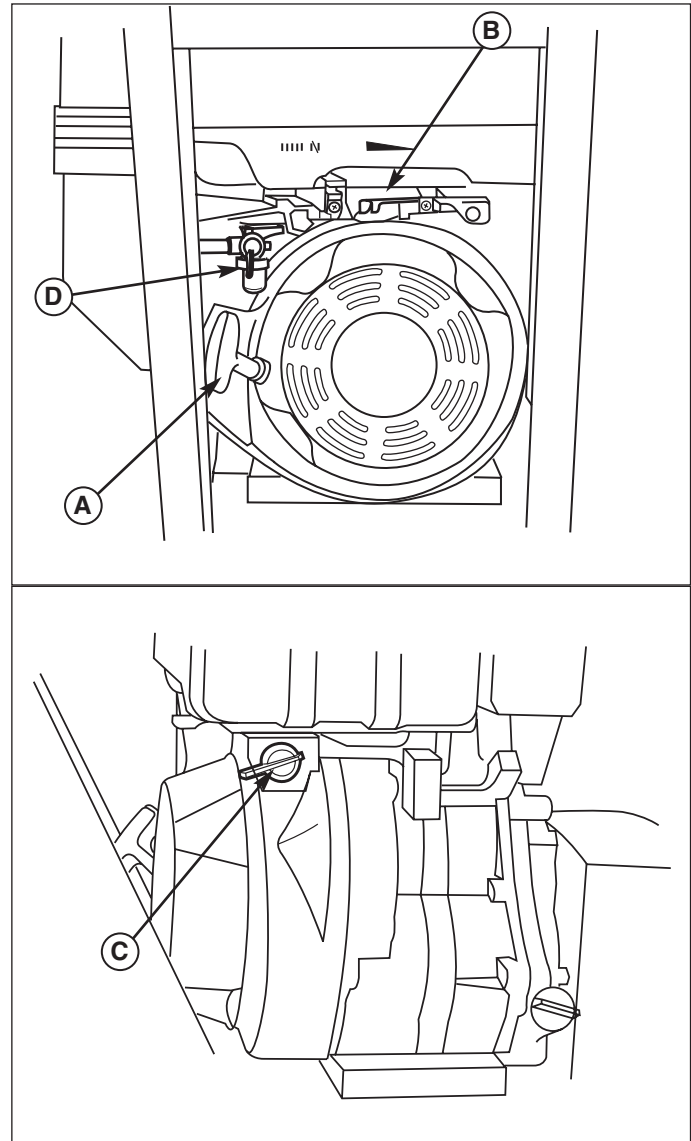

Figure 1. Engine Controls
1. Turn the fuel valve (D, Fig. 1) to the ON position.
2. Set Engine Power switch (C) to the ON position.